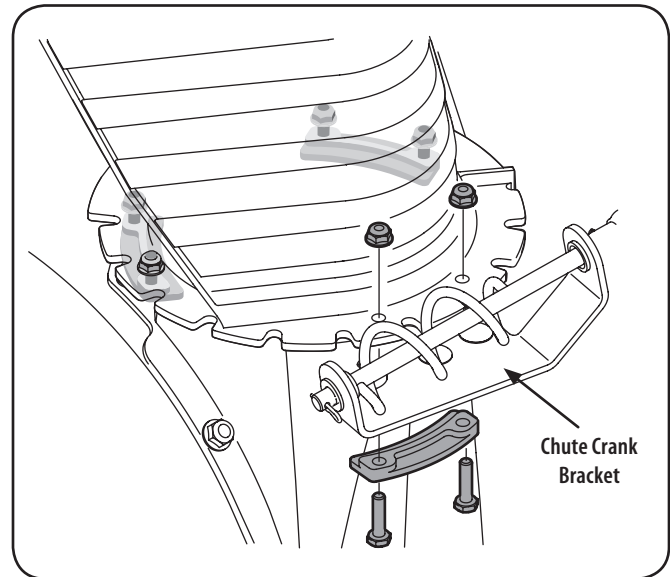

Figure 3-4
1. Loosen, but do not remove, the chute crank bracket in order to attach the chute assembly. See Fig. 3-4.
2. Remove lock nuts and screws securing one of the flange keepers to the chute assembly. Loosen the fasteners of the other two flange keepers. See Figure 3-4.
4. Secure flange keeper removed earlier with lock nuts and screws. Tighten down nuts securing the other two flange keepers. See Figure 3-4.